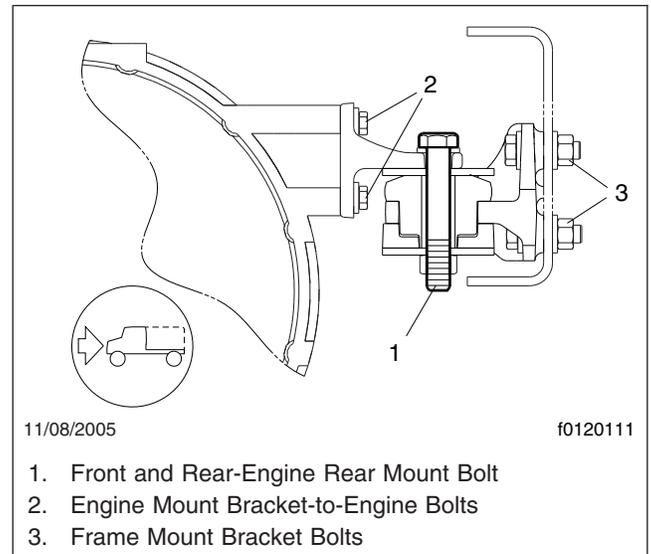

Fig. 1, Front and Rear-Engine Rear Mount (ISB chassis built after 2002)
- Check the rear engine-support fasteners. See Fig. 1. Tighten the rear engine-mount bolt 157 lbf·ft (213 N·m).